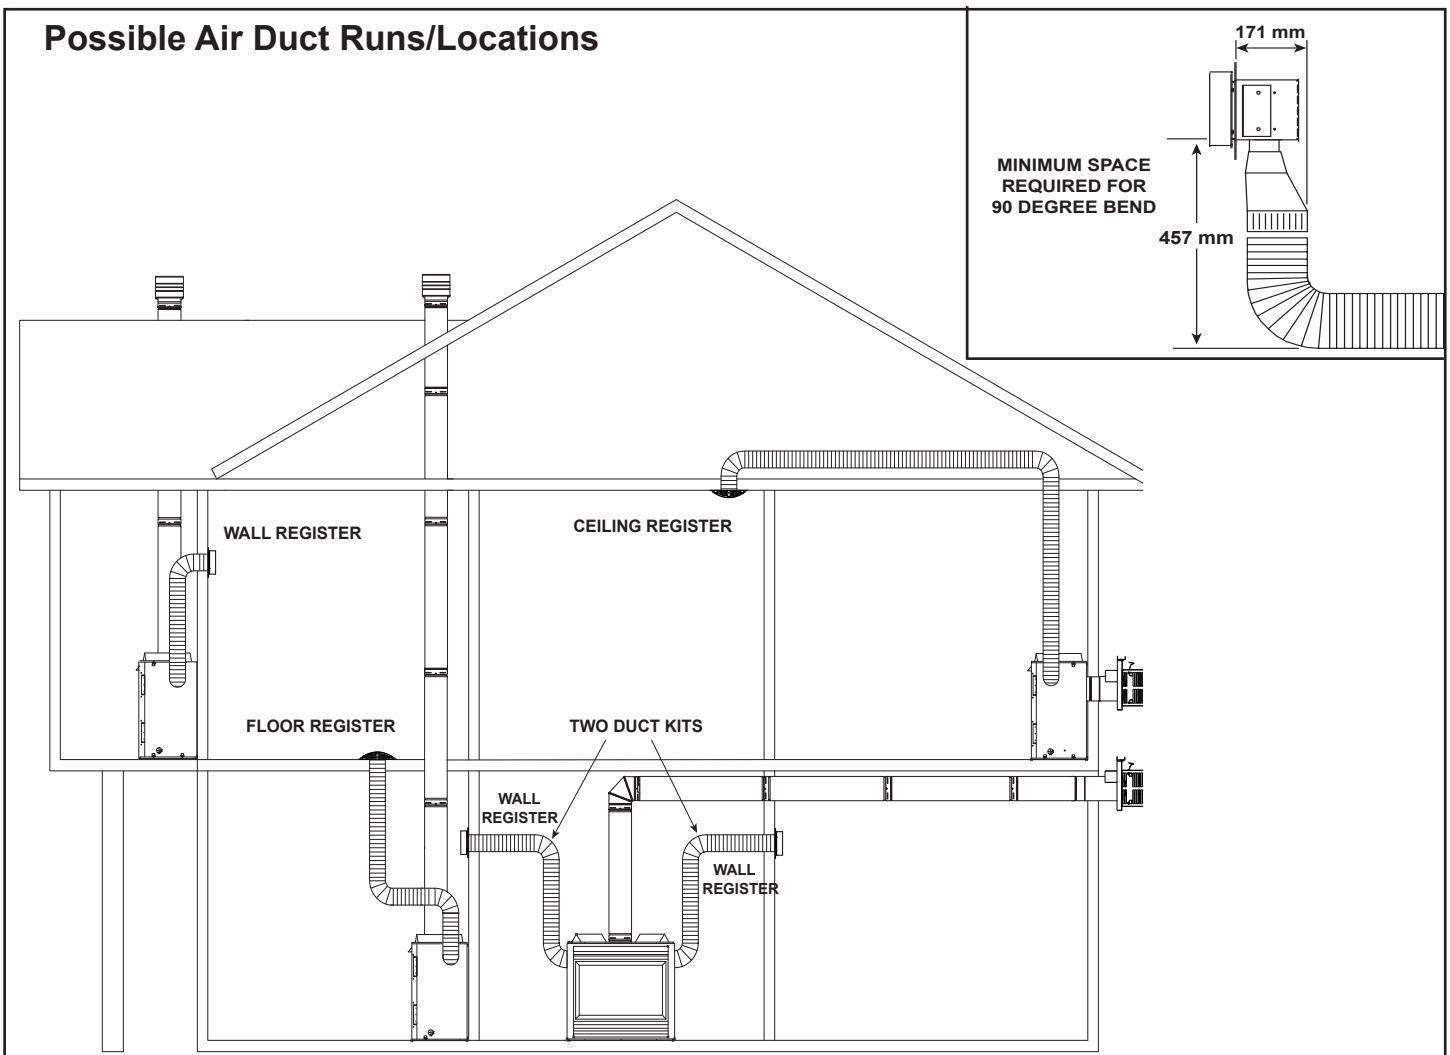

Figure 5.5 Air Duct Runs
1. Plan the location of the heater and the warm air duct run(s). See Figure 5.5 for potential installation options.